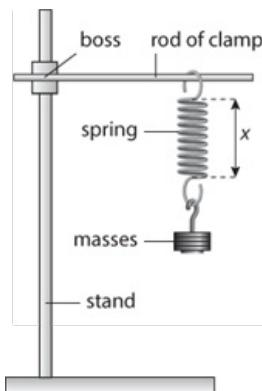

Figure 1.3: Spring suspended from rod with weights.
- 2 Suspend the spring from the rod of a clamp. Attach 500 g from the bottom of the spring as shown in Figure 1.3.
- 3 Measure the length of the coiled section x of the extended spring as shown in Figure 1.3 and write your answer in the Results section.